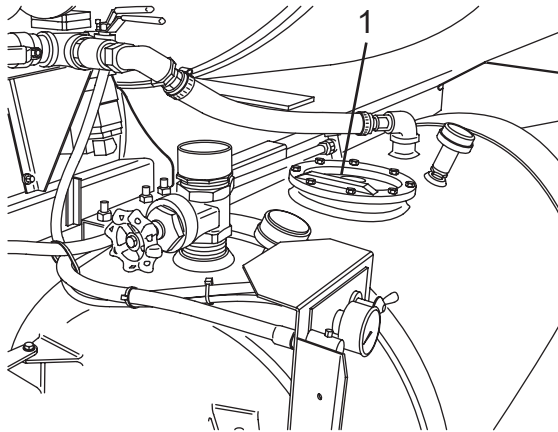

Figure 92
2. Place the water supply hose in the water tank flopper valve (Figure 92, Item 1) and fill the tank.